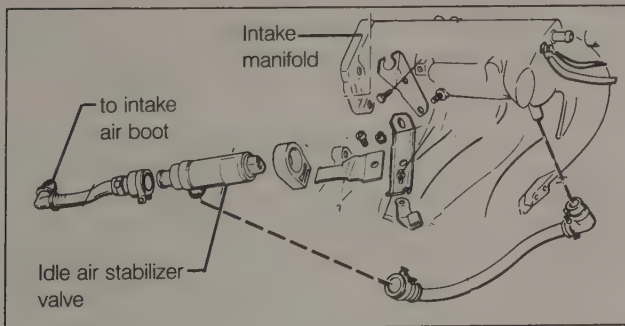

Fig. 4-35. Exploded view of idle air stabilizer system showing mounting brackets and hose connections.
2. Remove the idle stabilizer valve. Disconnect the electrical connector, then remove the hoses and mounting bracket. See Fig. 4-35.